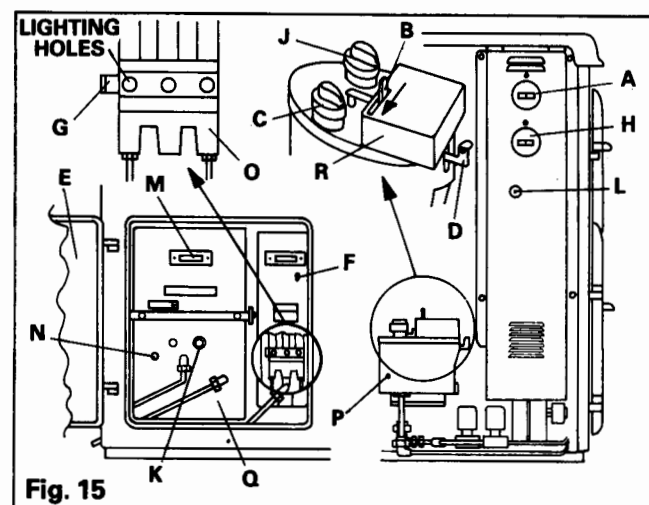

Fig. 15
- (viii) Depress the trip lever **D** on the front of the Oil Control Valve **P** (See Fig. 15) and turn the Boiler Oil Control Knob '**J**' to No.6 setting.
Checking the Cooker Burner Oil Level – Fig. 15
- a. Turn cooker control knob **C** to **OFF**, disconnect the copper pipe connection at the burner base and withdraw. Draw off the oil in the cooker burner base. See Fig. 15. Alternatively, the oil can be sucked out using an aspirator.
Lighting the Boiler Burner – See Fig. 15
Lighting the Cooker Burner – See Fig. 15